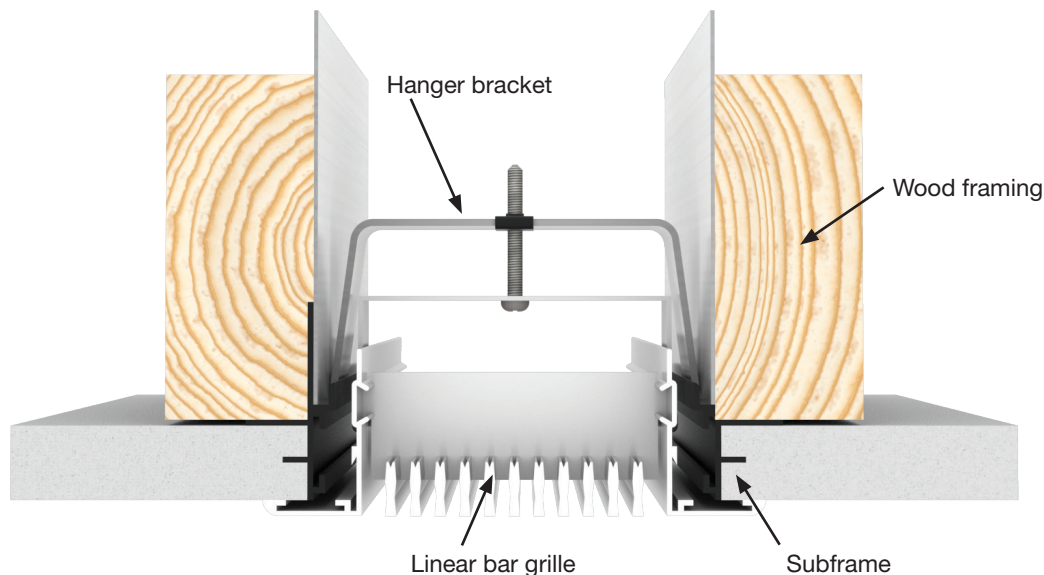

**Figure 7 (Step 3B and 4A): Subframe Installed in Framing – Shown with Plenum/Duct (not required)**
- B. Install and secure subframe provided in framing – see Figure 7. Note: sub end borders need to be cut to size and notched if used; they are not provided by the factory.
- A. Install drywall below framing, butted up against the lower section of the subframe – see Figure 7.